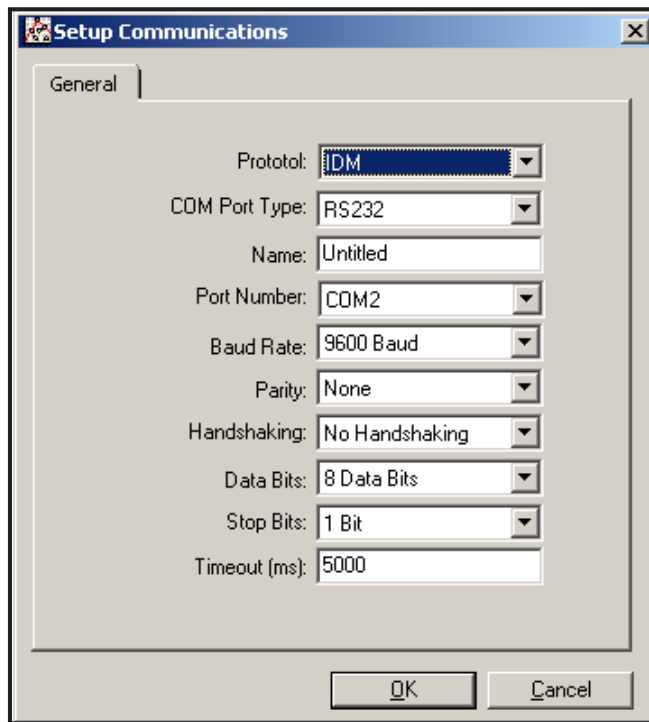

Figure 33: Setup Communications Screen
5. Click on the *Communications Port* option to select it. The *Setup Communications* screen appears similar to Figure 33.